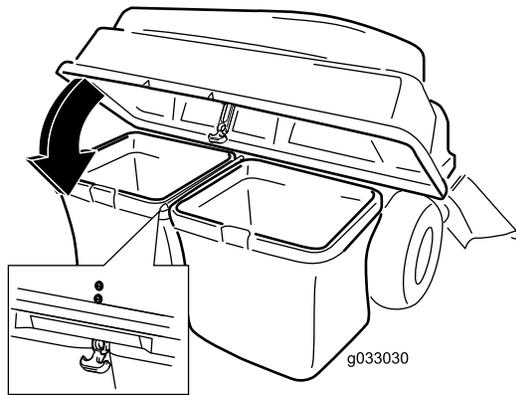

Figure 21
- Lower the bagger top onto the bags (Figure 21).
- Secure the hood with the latch (Figure 21).